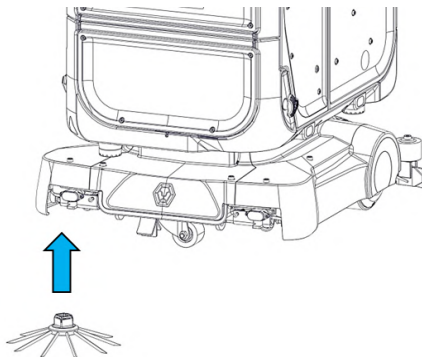

FIGURE 2-5
2. Align the core with the internal metal mating part and then push the core of a new side brush upwards to lock, a click sound can be heard **(Fig. 2-5)**.